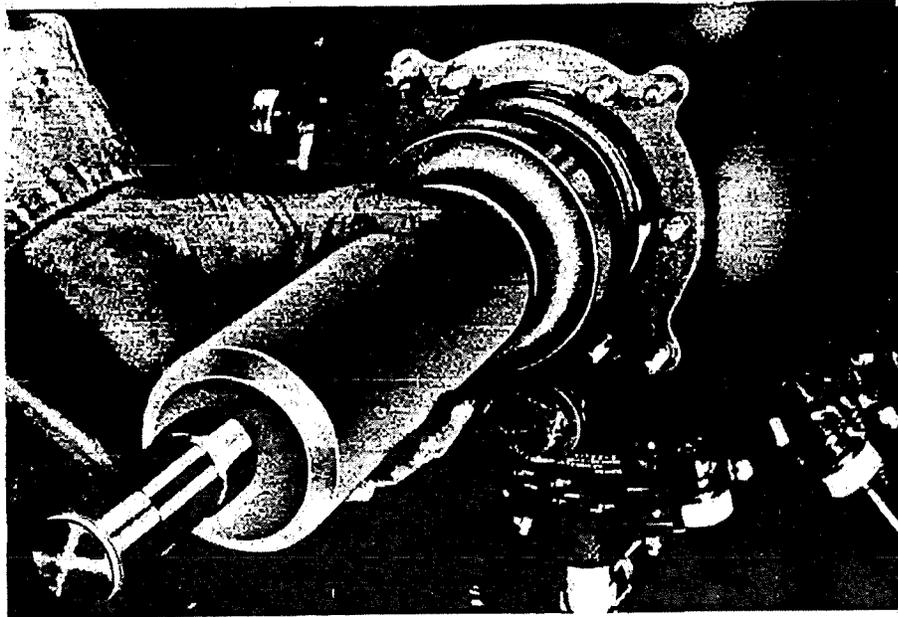

Figure 47 - Installing Thrust Bearing Onto Crankshaft
e. Drive thrust bearing into place using Drift (Tool No. T-25000 with Adapter T-25000-2). Make certain that thrust bearing is properly seated. Refer to Figure 47.